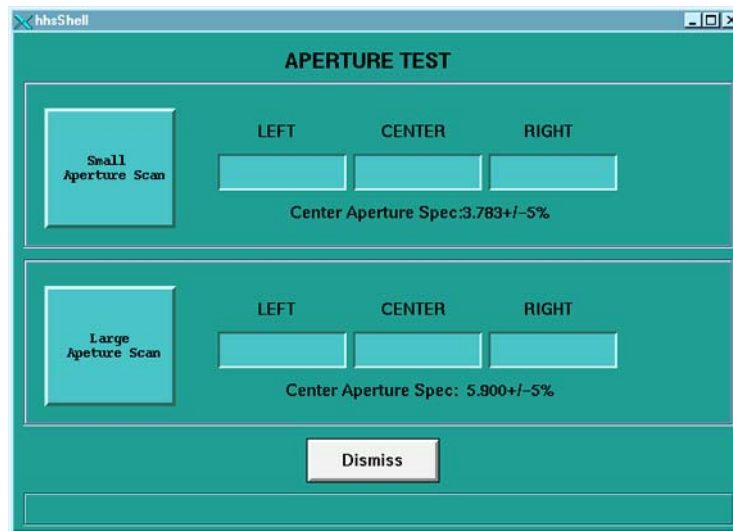

Figure 8-2 Collimator Aperture Test Screen
- 6.) Select SMALL APERTURE SCAN to display a scan protocol window and start gantry activity (refer to Figure 8-2).
- 1.) Select LARGE APERTURE to display a scan protocol window, and start gantry activity (see Figure 8-2).